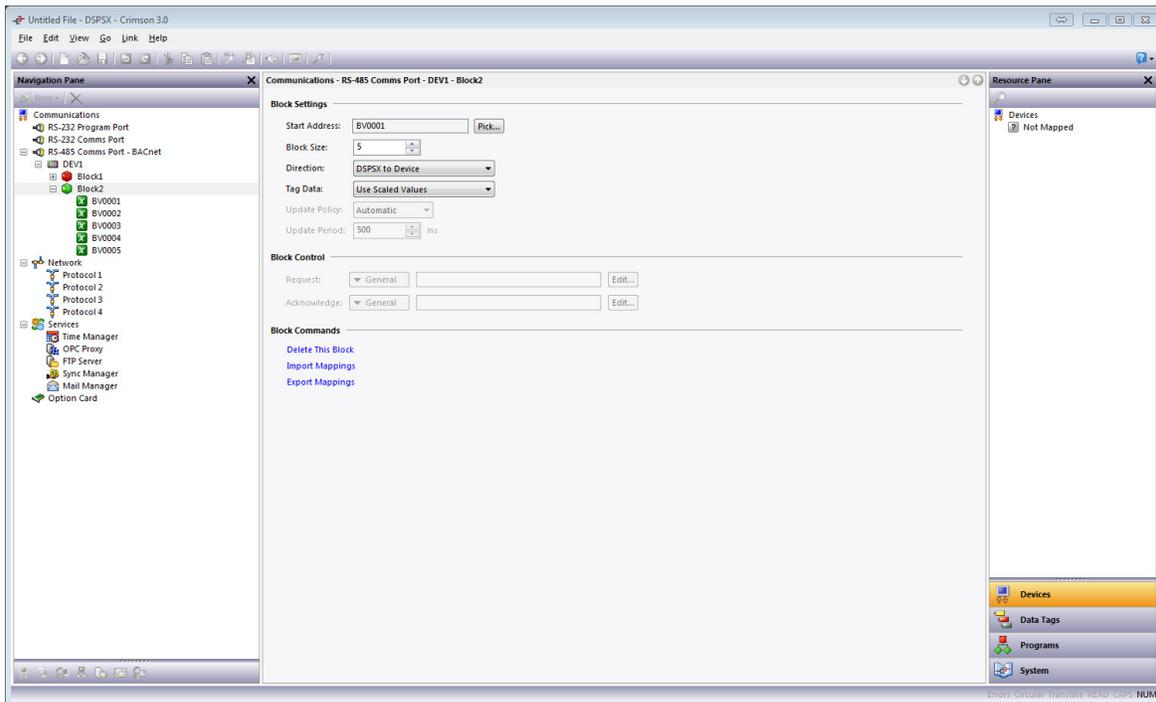

Figure 20.
22. Referring to Figure 20, set the Block Size to the desired number of data points; 5 in this example.